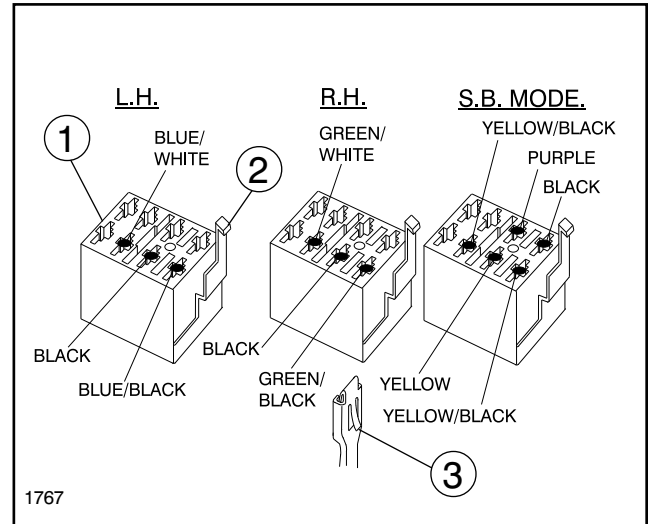

FIG. 5
d. Install the terminals/wires into the sockets of the new Connector Housings, provided, as shown in FIG. 5. Places all the wires from each group into a single Connector Housing. Oriantate the terminals as shown in FIG. 5, with the Tangs facing in the direction of the Locking Arm. Firmly press the terminals into the sockets.